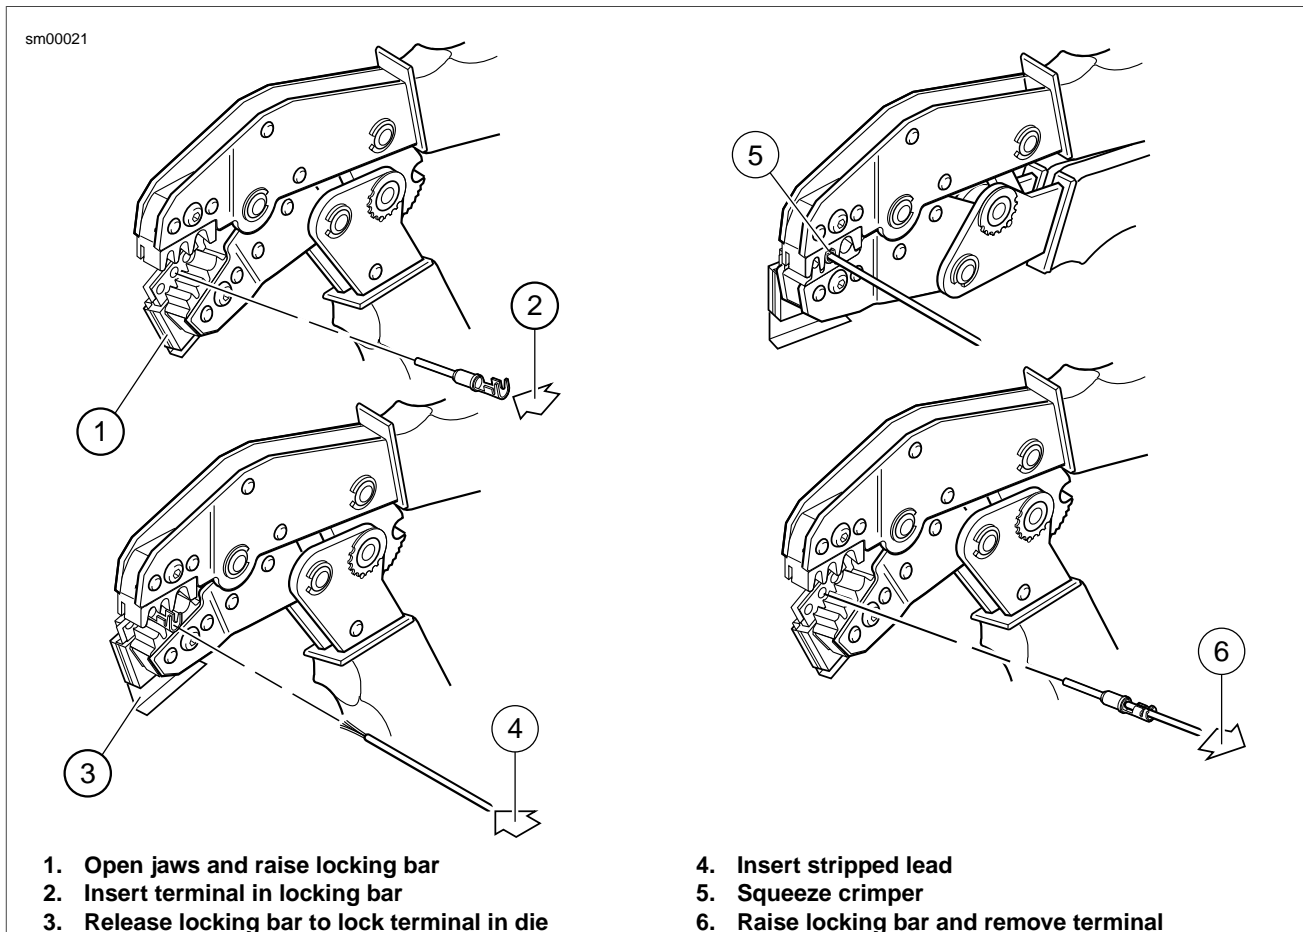

Figure A-23. Crimping a Deutsch Standard Terminal
1. See Figure A-23. Squeeze the handles of the DEUTSCH TERMINAL CRIMP TOOL (Part No. HD-39965-A) to open the jaws. Push the locking bar (1) up.
2. Insert (2) terminal (socket/pin) through hole of the locking bar, so that the rounded side of the contact barrel rests in the nest (concave split level area) with the crimp tails facing upward. To match the wire gauge to the crimp tool die, refer to Table A-3.